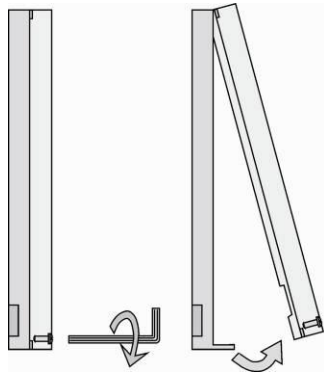

Figure 2.2 Cover Removing
2. Use the hexagonal wrench included in the supply and remove the 2N® Helios IP Vario metal cover. Remove the screw in the lower part of the metal cover and fold out the cover as shown in Figure 2.2.